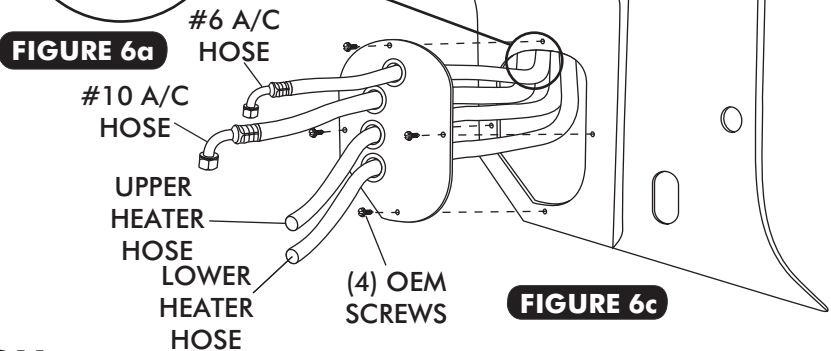

FIGURE 6c
- SECURE KICK PANEL COVER USING OEM SCREWS, AS SHOWN IN FIGURE 6c BELOW.